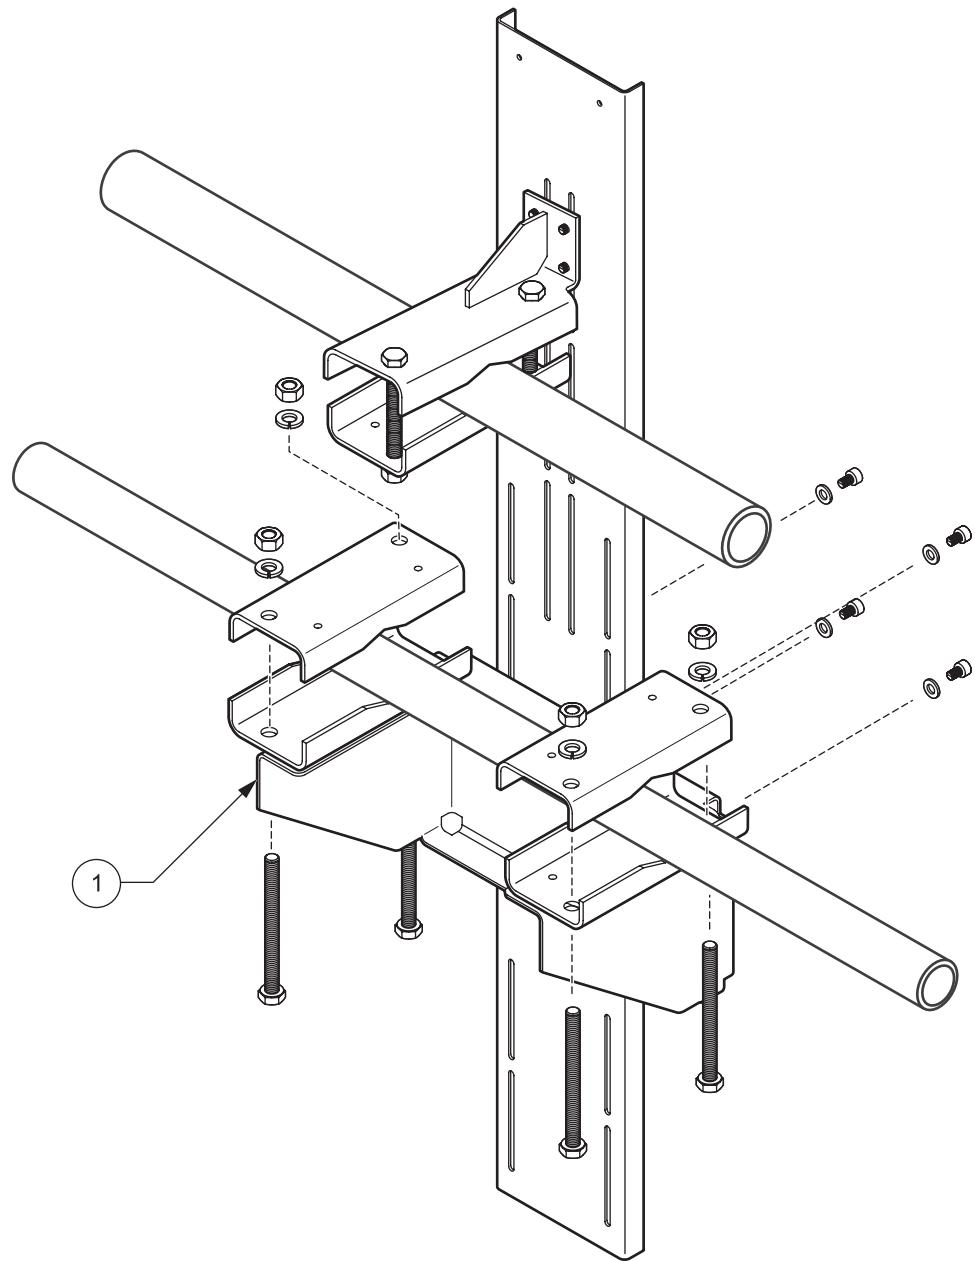

Figure 10 Installing the mounting rail rotated by 180°
**Note:** Adjust the installation height by sliding the angle plate in the slots or by rotating the angle plate by 180° (see Figure 10 on page 10)